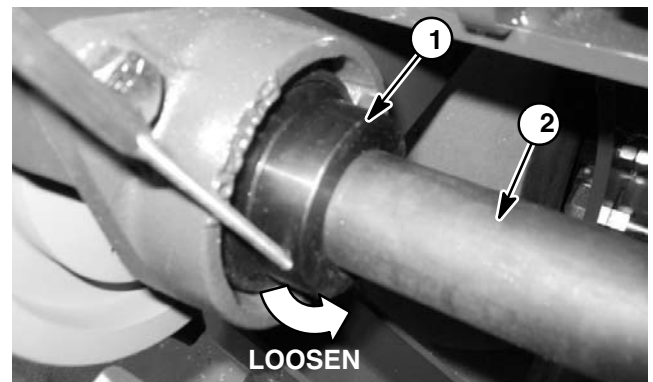

Figure 19
7. Loosen set screw that secures each flange mount bearing locking collar to jackshaft. Using the blind hole in bearing collar as a striking point, unlock collar from jackshaft by rotating the collar in the opposite direction of jackshaft rotation with a punch (Fig. 19).